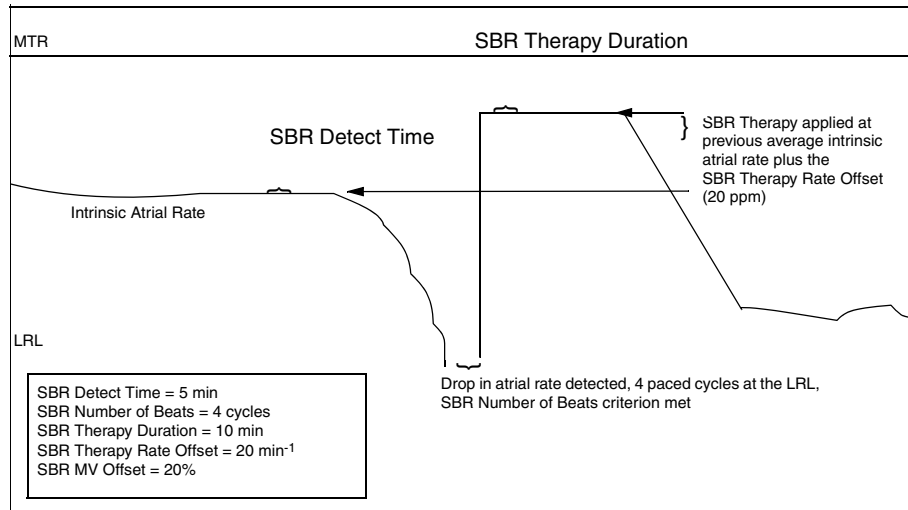

Figure 6-33. Example of a decrease in atrial rate meeting the SBR criteria.
SBR Therapy Rate Offset is calculated by using the patient's average atrial rate before the bradycardia and adding a programmable positive offset (Figure 6-33). Pacing is applied in the DDD(R) mode at the greater of either (1) the previous average atrial rate plus the SBR Therapy Rate Offset, not to exceed the MTR, or (2) the sensor-indicated rate (DDDR mode only).